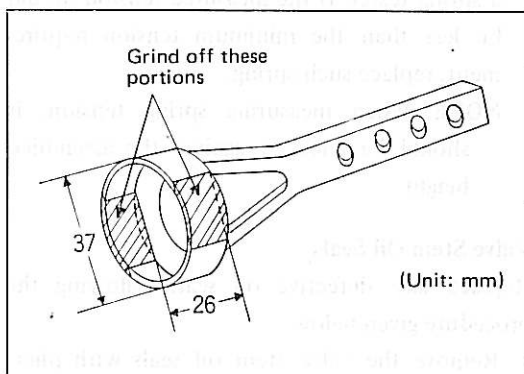

Fig. 3-119 Modification to Be Made on Special Tool
5. Attach the hook section of the special tool (09202-87701) to the rocker shaft. (See Fig. 3-119 for partial modification to be made on this special tool.) Then, place the body of the special tool on the valve spring seat. Raise the lever upward with the rocker shaft as the fulcrum so as to remove the valve spring retainer locks.